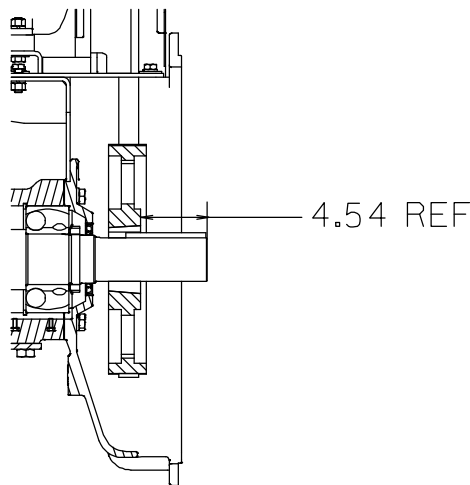

Figure 8. Drive Sprocket Positioning
Install the shaft key (22) in the shaft keyway. Slide the bushing and sprocket (5 and 6, Figure 1) onto the shaft to the dimension shown in Figure 8. Install the bushing setscrews and tighten the setscrews